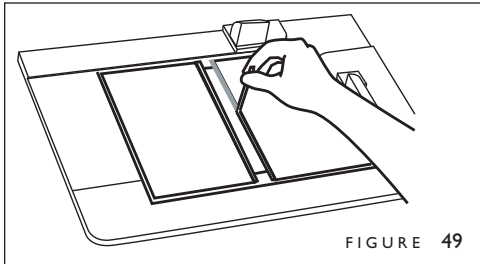

FIGURE 49
11. Place an empty Fastback Hardcover, adhesive side up, in the Hardcover Guide and clamp in place. The top and right edges of the cover should be under the translucent green stops. If the book width is C or greater, you may use the green plastic inserts to ensure that the book block does not shift during binding. Remove the narrow release paper from the right panel of the Fastback Hardcover, exposing a small portion of the super-strong binding adhesive that coats the interior hard covers. (figure 49).